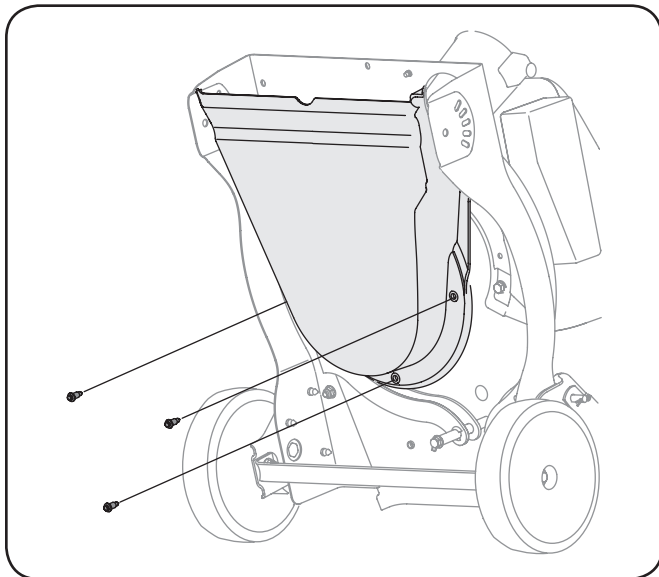

Figure 7-4
- Carefully tilt and support the unit up to provide access underneath to the nozzle mounting hardware and impeller. Remove the three shoulder bolts securing the black plastic lower flail housing to the lower housing. Refer to Figure 7-4.